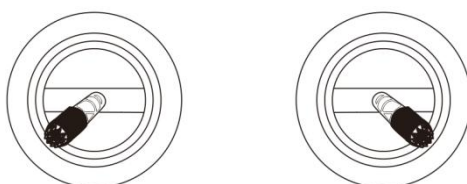

Figure 2-4 Lock
1. Perform the operation shown in Figure 2-4 to lock the drone.